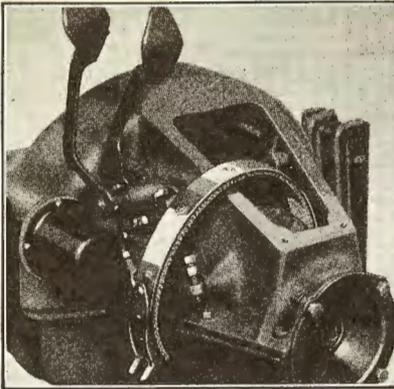

Fig. 310
- 537 The reverse pedal and brake pedal should then be pulled out as far as they will conveniently go (See Fig. 309) and the lugs removed as explained in Par. 534. The bands can then be withdrawn from the right side (See Fig. 310), permitting them to follow close to the cover to prevent their being distorted.